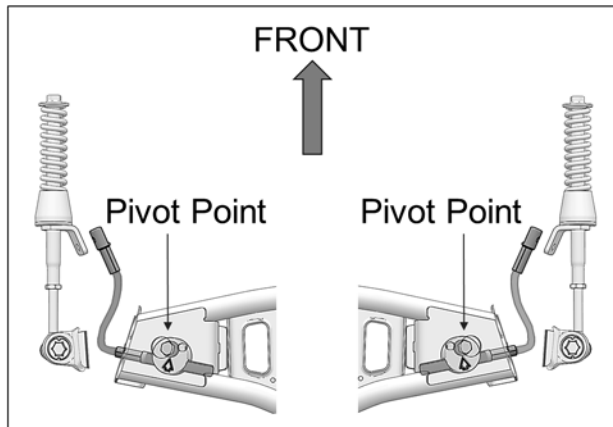

Fig. 24
13. Make sure aluminum disk pivot point is installed in front of steering limiter cable. See Fig. 24